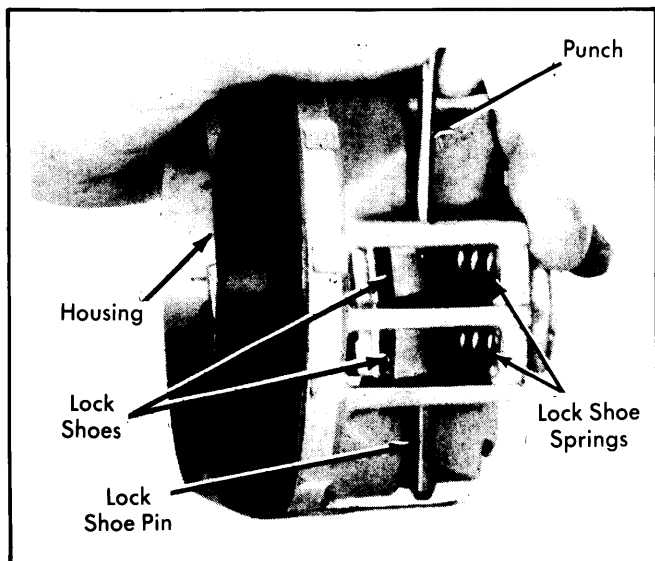

Fig. 12 Removing Lock Shoe Pin
14) Using a punch, drive out lock shoe pin. Compress lock shoe spring to release spring tension on pin. Remove lock shoes and lock shoe springs. Disconnect steering shaft. Remove shaft through upper end of column. See Fig. 12.